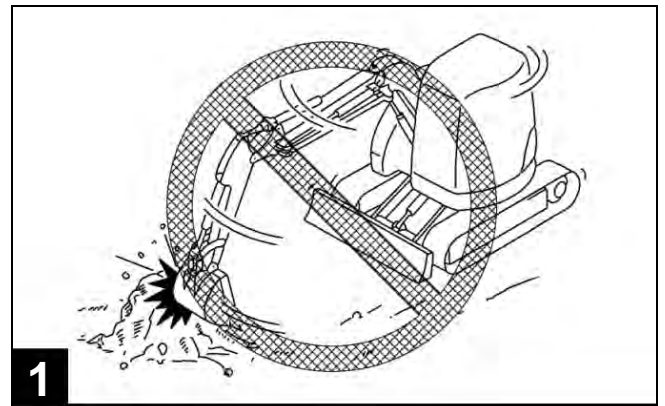

Figure 3-46 Machine Operation Exclusions
- Do not use the swiveling force of the excavator so the bucket serves as a hammer or battering ram (1, Figure 3-46).